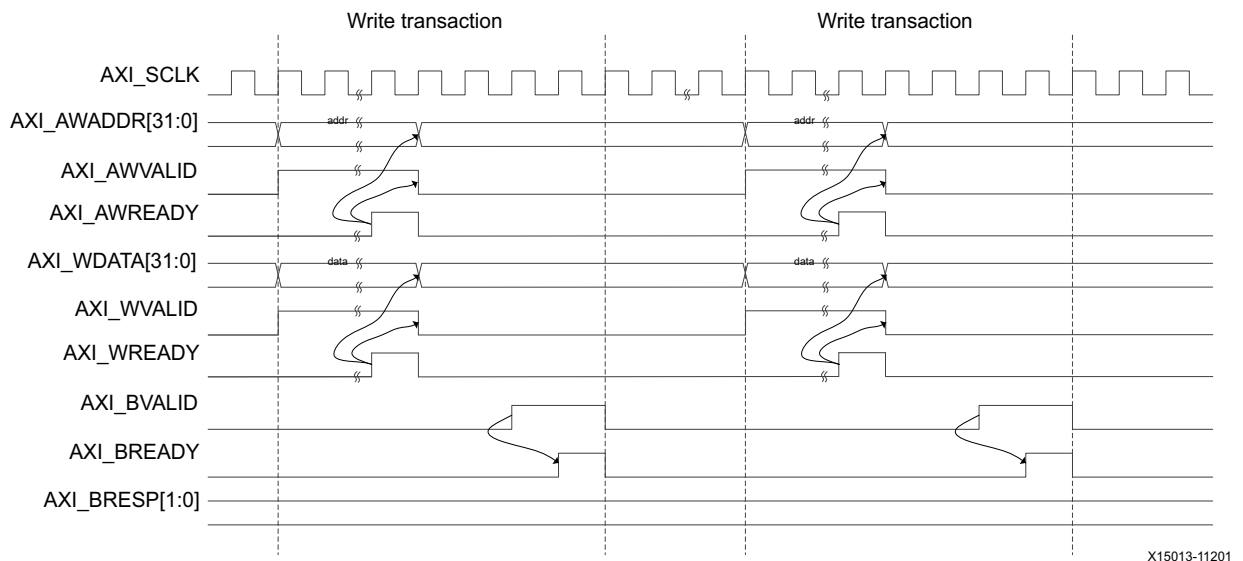

Figure 5-16: AXI4-Lite User Side Valid Write Transaction
- Valid Write transactions (Figure 5-16)